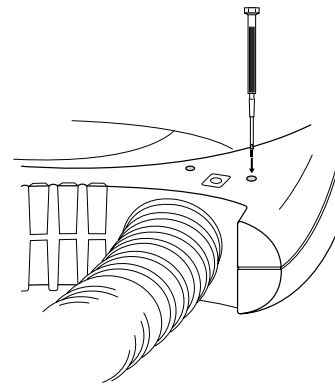

Figure 11.
6. With a small screwdriver continuously press the OT test button (see Figure 11) for the duration of the over-temperature test.\* When functioning properly, the “Over-Temp” indicator will illuminate and an audible alarm will sound. The peak test kit temperature will be below 56°C, and the heater will switch off within two minutes. If this does not occur, return the unit to 3M Patient Warming for service.